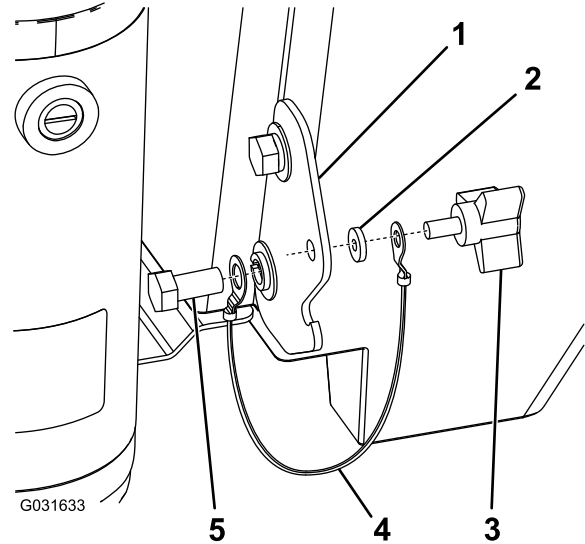

Figure 9
1. Attach the tether to the lower bolt on each of the hopper latches (Figure 9).
2. Attach the open end of the tether to the thumb screw using a rubber washer (Figure 9).